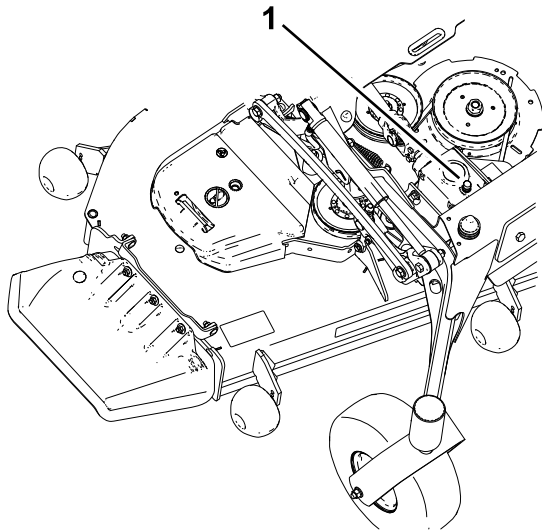

Figure 51
5. Remove the dipstick/fill plug from the top of the gearbox and ensure that the lubricant is between the marks on the dipstick (Figure 51).